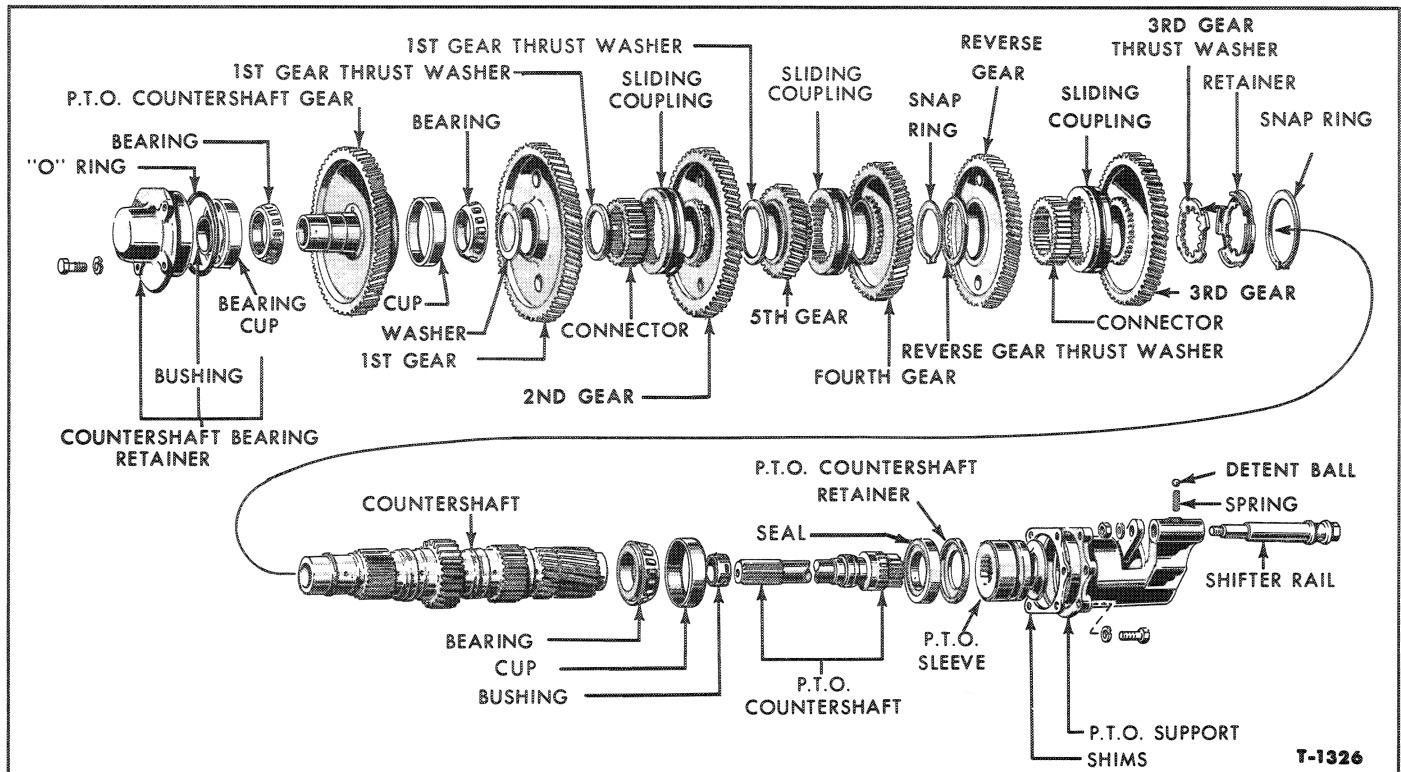

Figure 28—Countershaft Disassembled
Countershaft: Refer to Figure 28 while working on the countershaft.
4. Work from the rear of the shaft and install a sliding coupling on the 5th speed gear. Slip the 4th speed gear onto the shaft with the spur teeth toward the sliding coupling and secure with the snap ring, Figure 28. Install the thrust washer with the locking tab on the shaft next to the snap ring. Slip the reverse gear onto the shaft with the spur teeth facing toward the rear, then install a connector and the sliding coupling (the small notches machined in one end of the connector crown must be positioned next to the 3rd gear).
1. Remove the bearing cup from the P.T.O. support, Figure 28, with Puller 943 and a slide hammer. Remove the P.T.O. shifter stop, shifter rail, detent ball, and spring. Remove the P.T.O. shifter sleeve from the rear of the support. Work from the rear of the support and drive out the retainer and oil seal.
3. Slide the P.T.O. sleeve into place, Figure 28. Place the spring and detent ball in the support. Hold the ball down with a screwdriver and slide the shifter rail in far enough to cover the detent ball. Place the stop in position in the sleeve groove, then slide the rail forward into the hole in the stop. Secure the rail and stop with a lock washer and nut, Figure 28.
1. Position the P.T.O. countershaft front bearing retainer and "O" ring seal on the transmission, Figure 28, and tighten the bolts to 20-25 ft. lbs. torque.
3. Place the assembled countershaft in the transmission case, rear end first. Move the countershaft forward to seat the front countershaft bearing in the P.T.O. countershaft gear bearing cup, Figure 28.